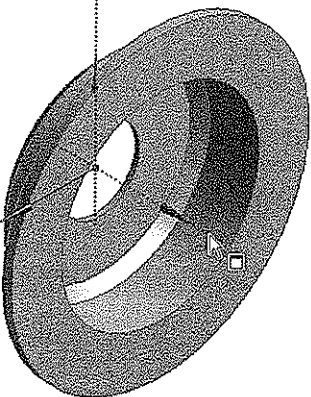

Figure 4-32 Selecting the X-axis as the axis of circular pattern
7. Next, click on the **XYPlane** in the Tree Outline and then move the cursor to the X-axis in the **Graphics** window; the X-axis gets highlighted, as shown in Figure 4-32.